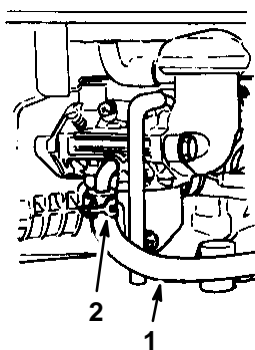

Figure 17
3. Remove the fuel tube by loosening the tube clamp at the carburetor (Fig. 17).
- Remove the fuel filter from the fuel tank (Fig. 17).